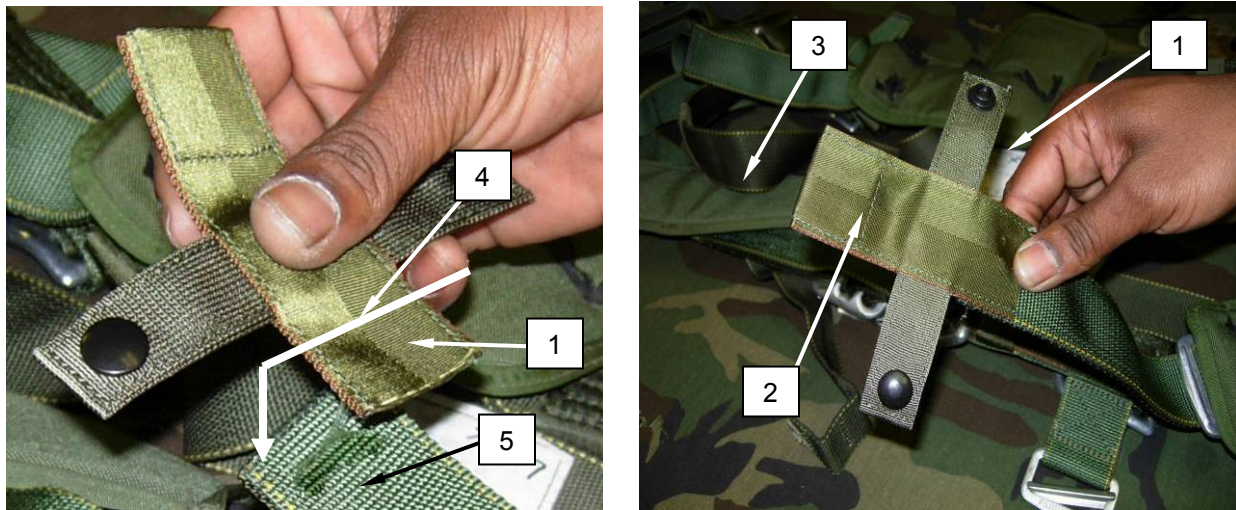

Figure 24. Proper positioning of the Tuck Tab Assembly.
15. Position the tuck tab and snap fastener (Figure 24, Item 1) so that the stiffener end of the tuck tab assembly (Figure 24, Item 2) is facing towards the shoulder comfort pad (Figure 24, Item 3). Align the 1-inch mark (Figure 14, Item 4) on the tuck tab assembly with the top edge of the upper main lift web strap (Figure 24, Item 5). Repeat for opposite side.